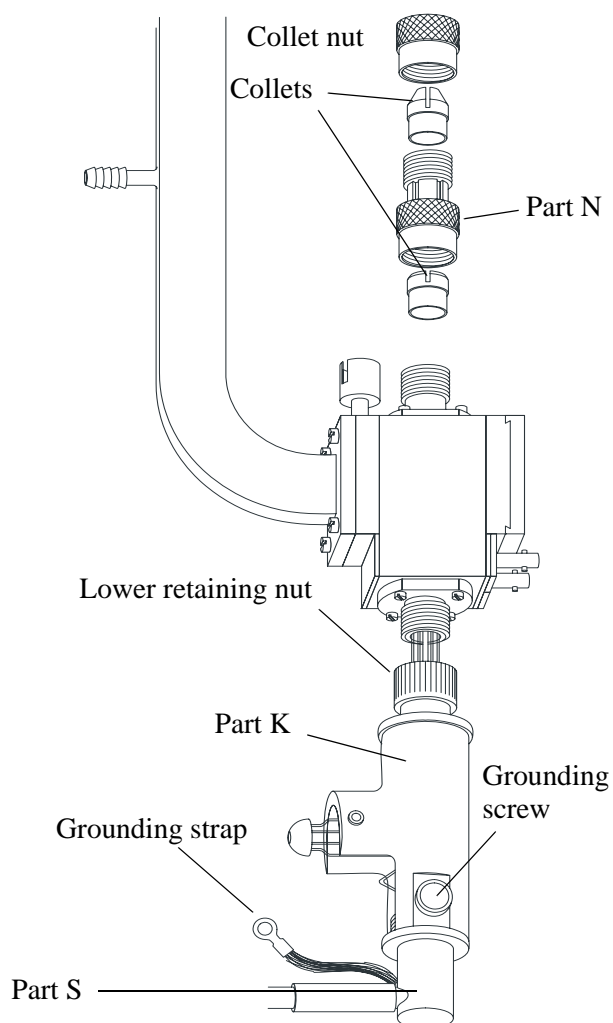

Figure 2-5 Attaching the cryostat to the cavity.
4. **Connect the cryostat to your cavity.** (See Figure 2-5.) Remove the collet nuts and white plastic collets from your cavity. Carefully insert the quartz end of the cryostat assembly upwards through the bottom of your cavity. Screw the lower retaining nut of the dewar insert holder onto the collet stack of your cavity. (Do not over tighten.)